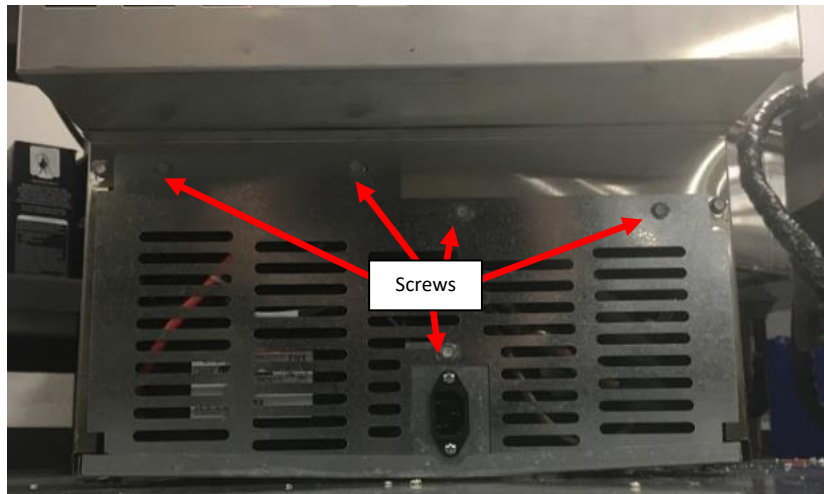

Figure 112: Rear Grill screws shown.
ii. Remove the Rear Bottom Grill on the Fridge by removing the five (5) screws holding it in place with a 5/16" Hex Drive Screwdriver. **See Figure 112.**